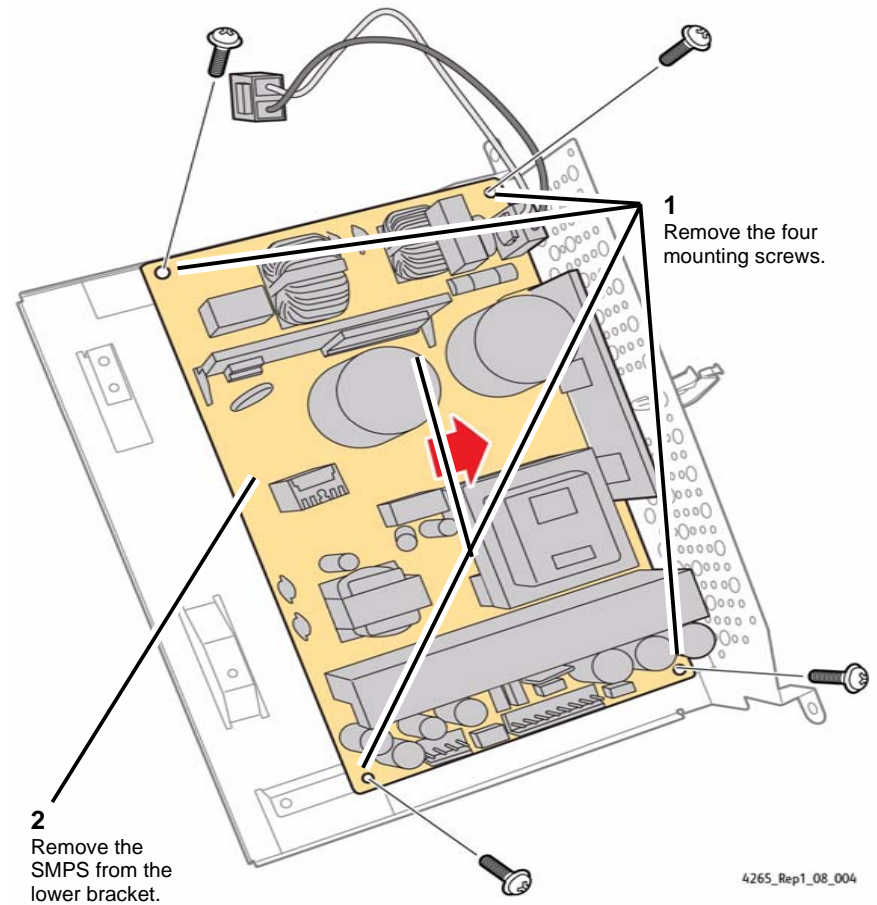

Figure 4 Removing the SMPS from the Lower Bracket
6. Remove the SMPS from the lower bracket (Figure 4).